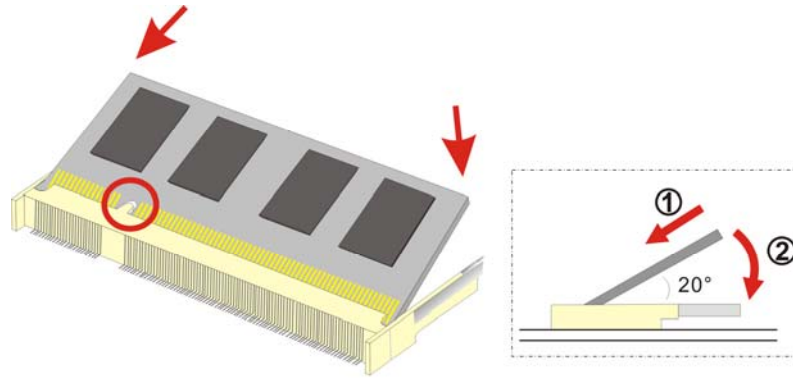

Figure 4-2: SO-DIMM Module Installation
Step 6: Install the new SO-DIMM module by pushing it into the socket at an angle (**Figure 4-2**).
Step 7: Gently push the rear of the SO-DIMM module down (**Figure 4-2**). The spring retainer clips clip into place and secure the SO-DIMM module in the socket.